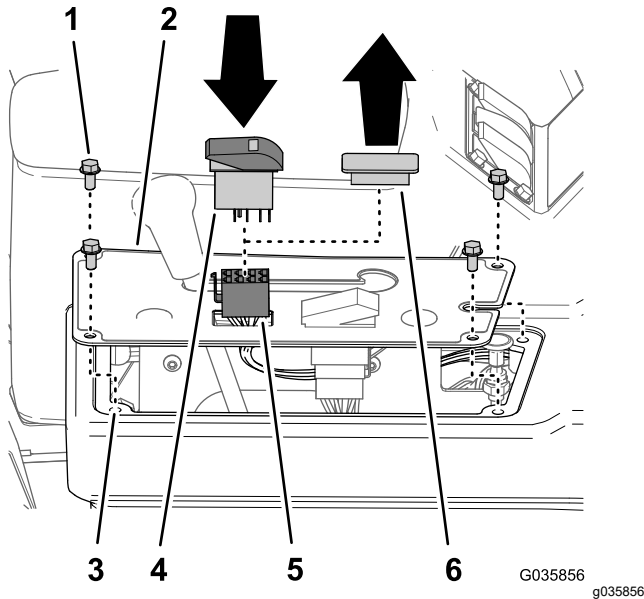

Figure 33
1. If installed, remove the 4 flange-head bolts (1/4 x 1/2 inch) that secure the panel cover to the top of the console as shown in Figure 33.
2. Remove the switch plug from the panel cover of the console (Figure 33).
3. Align the Connect the 8-socket connector of the wiring harness of the ultra sonic boom finishing kit through the opening in panel cover (Figure 33).
4. Connect the 8-socket connector of the wiring harness of the ultra sonic boom finishing kit labeled SONIC MODE MANUAL VS. AUTO to the rocker switch (Figure 33).
5. Insert the rocker switch in the dash panel opening until the switch snaps securely (Figure 33).
6. Align the holes in the panel cover to the holes in the top of the console (Figure 33).
7. Secure the panel to the console with the bolts (Figure 33) that you removed in step 1.